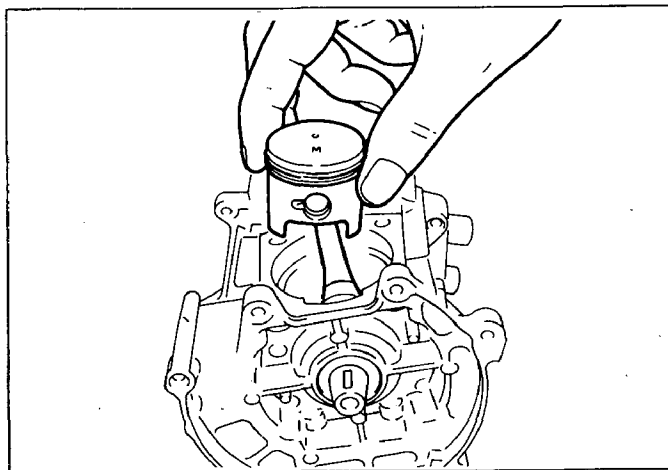

Fig. 17
- (1) Insert magneto end of crankshaft into front crankcase bearing.
- (2) Put gasket on the fitting surfaces of crankcase. (Use new gasket.)
- (3) Insert PTO end of crankshaft into rear crankcase bearing. (See Fig. 17.)
- (4) Tighten four (4) bolts evenly to join rear crankcase to front crankcase.